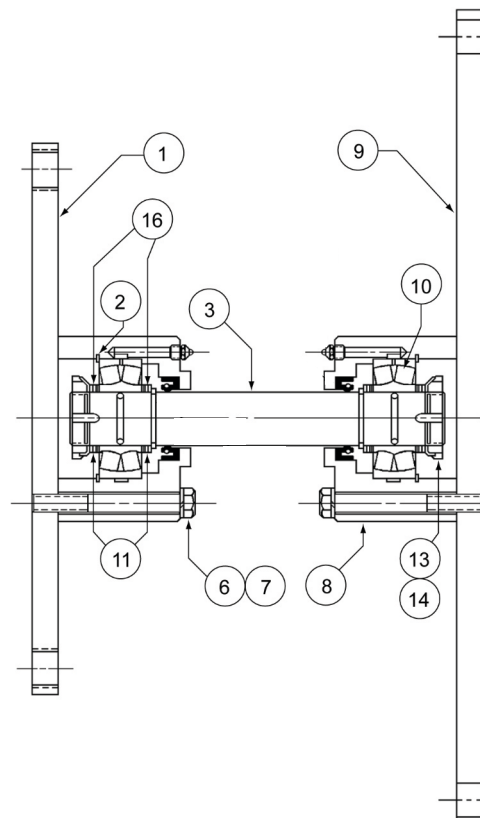

Figure 6
- 2.5.3 Referring to Figure 6 , the overall length of the axial locking device can be adjusted by relocating shims (11,16) from one side of a bearing to another.